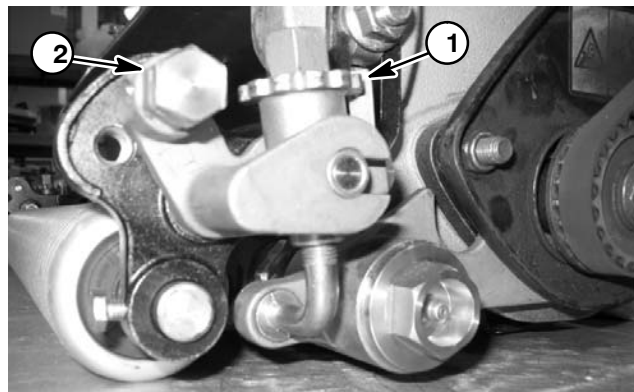

Figure 3
3. Position the groomer reel to the lowered, grooming position (Fig. 3).
4. On one end of the groomer reel, measure the distance from the lowest tip of the groomer blade to the working surface. Lift and turn height adjustment knob to raise or lower the blade tip (Fig. 3). Each notch on the adjustment knob changes the groomer height approximately 0.003 inch (0.08 mm).